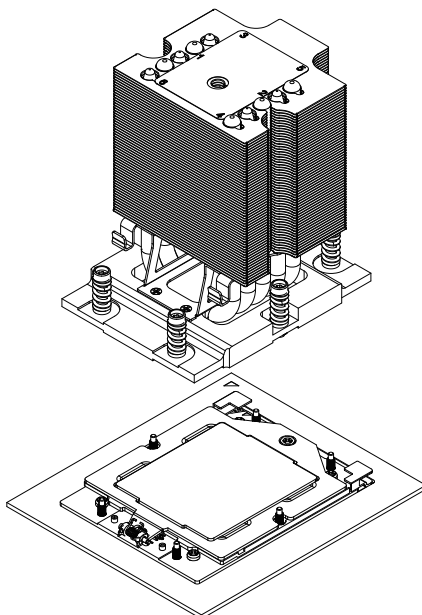

Figure 3
3. Place the heat sink directly on top of the CPU (Figure 3) so that the six heat sink mounting screws are aligned with and seated on the six heat sink mounting studs or nut standoffs on the socket stiffener frame. The heat sink must be properly oriented to the system cooling air flow direction. Please note that the heat sink cooling fan should not be attached to the heat sink body when tightening the six heat sink mounting screws.